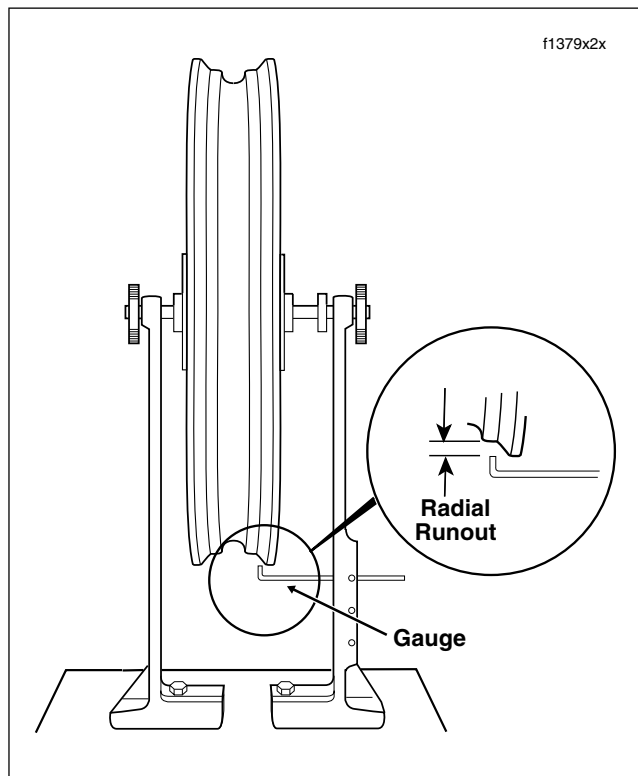

Figure 2-29. Truing Steel Laced Rim Radially
2. See Figure 2-29. Install truing arbor in wheel hub and place wheel in WHEEL TRUING STAND, Part No. HD-99500-80. Tighten arbor nuts so hub will turn on its bearings.
5. See Figure 2-29. After rim has been trued sideways it must be checked and trued radially. Adjust truing stand gauge to the rim's tire bead seat as shown. The rim should be trued within 1/32 inch (0.79 mm).